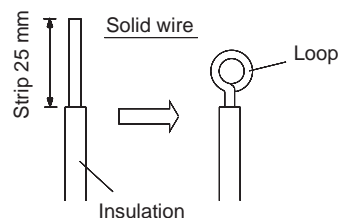

Fig. 30a
- (1) Cut the wire end with a cutting pliers, then strip the insulation to expose the solid wire about 25 mm. (Fig. 30a)
- (2) Using a screwdriver, remove the terminal screw(s) on the terminal plate.
- (3) Using the pliers, bend the solid wire to form a loop suitable for the terminal screw.
- (4) Shape the loop wire properly, place it on the terminal plate and fix it securely with the removed terminal screw using a screwdriver.